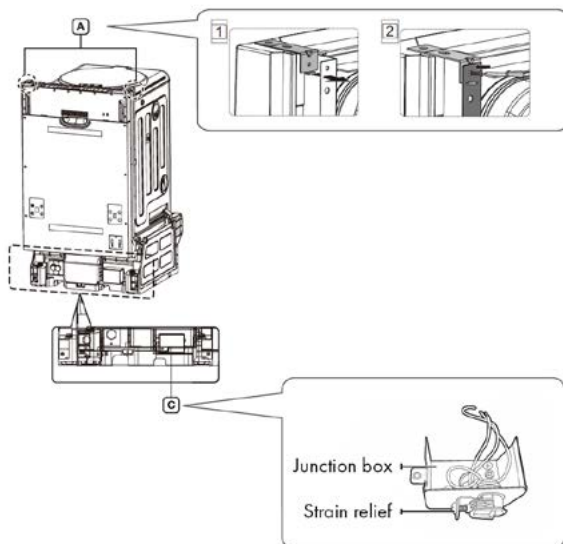

Figure 4
3. Remove the junction box cover located at the bottom front right of the dishwasher using a screwdriver, and then install the strain relief (see Figure 4-C). Make sure to keep the junction box cover; it is used in "Step 11: Electrical Wiring Connections" on page 21.
4. If the countertop is made of wood or a material not damaged by drilling, attach the two installation brackets supplied with the dishwasher using the supplied screws (see Figure 4-A). They will be used in "Step 9: Securing the Dishwasher" on page 17.